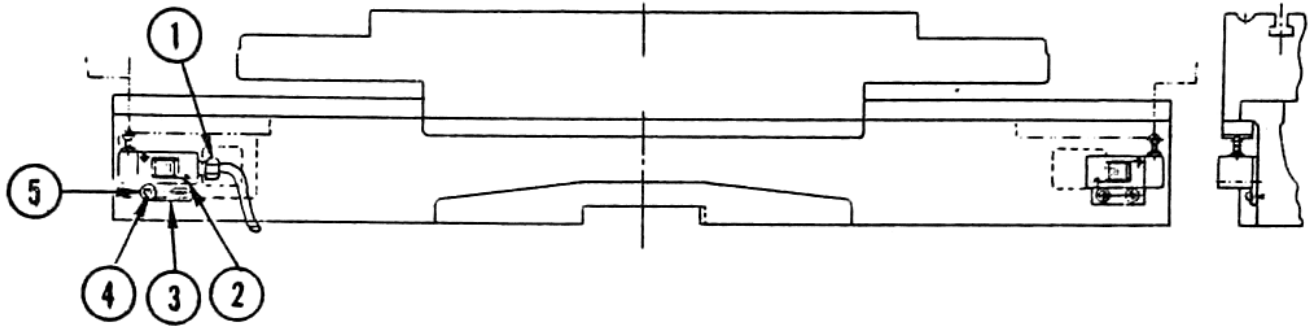

Figure 10-6 X-Axis Limit Switch Assembly
##### 10.5.1 X-Axis Limit Switch Replacement—Figure 10-6
2. Unscrew the knurled nut (1, Figure 10-6) on the electrical cable and disconnect the cable from the microswitch.
3. Loosen the socket head cap screws (2) that secure the microswitch to the mounting plate (3). Remove the switch.
4. The mounting plate can be removed by removing the screws (4) and washers (5) that hold it to the saddle.